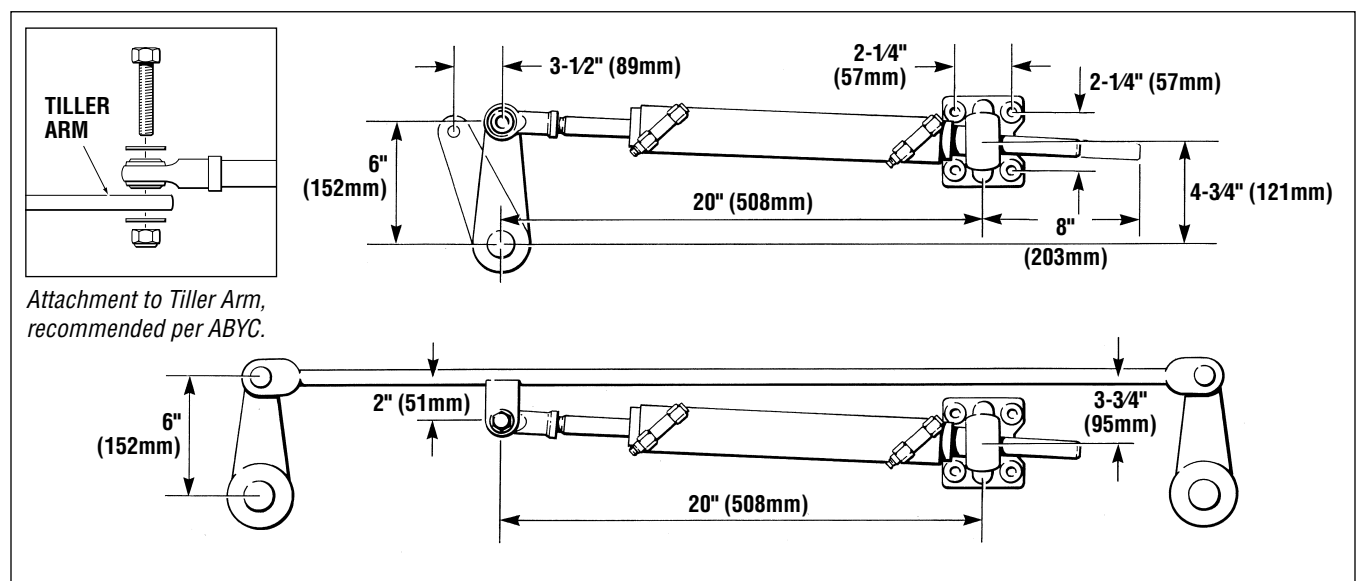

Figure 3.
4. Extend cylinder rod to arrive at 20" (508 mm) from center of rod end ball joint hole to the center of the mounting foot, (as shown in figure 3 below).